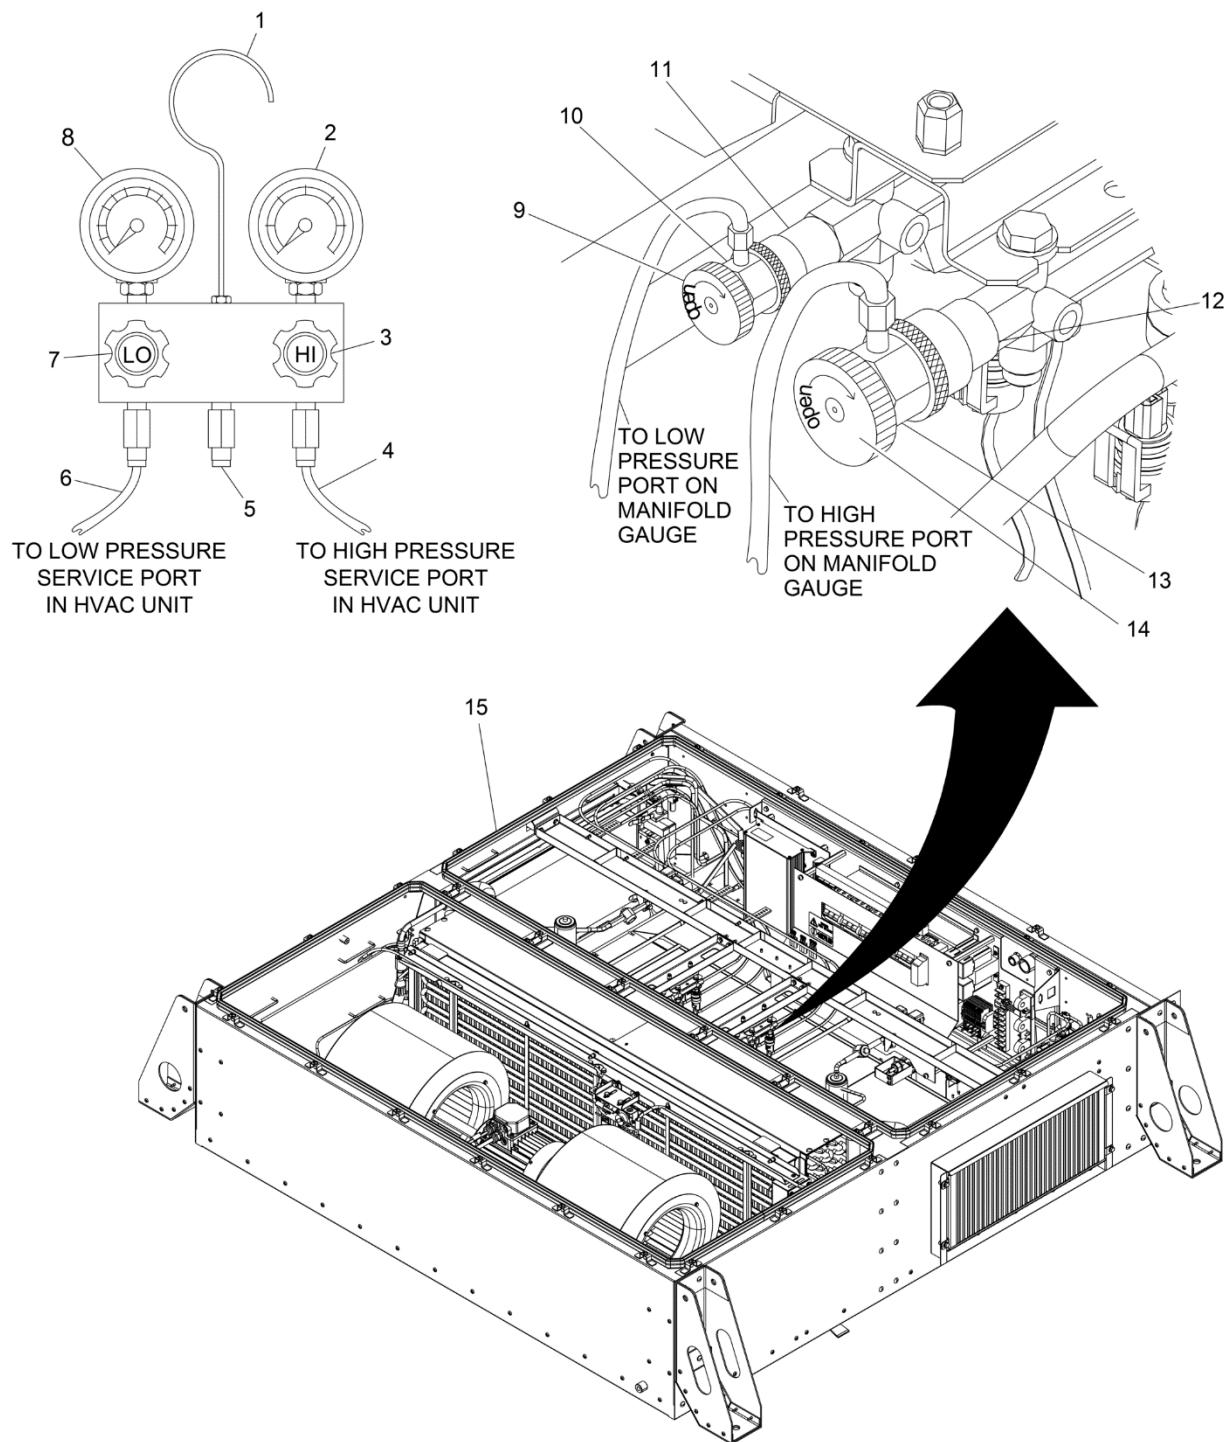

Figure 5-12: Pressure Transducer Functional Test
2. Verify hoses (4, 6, Figure 5-12) on manifold gauge set (1) are in good condition.
3. Ensure center hose port (5) on manifold gauge set is capped.
4. Ensure both high-pressure and low-pressure control valves (3, 7) on manifold gauge (1) are closed.
6. Install service couplers on service ports in return air plenum (15) as follows (refer to Figure 5-12):
- a. Ensure red service coupler (13) is closed by turning knob (14) fully counter-clockwise.
- b. At high-pressure service port (12), remove black cap from port and install red service coupler (13).
- d. Ensure blue service coupler (10) is closed by turning knob (9) fully counter-clockwise.
- e. At low-pressure service port (11), remove black cap from port and install blue service coupler (10).
7. Connect manifold gauge high-pressure hose (4) to red service coupler (13) on high-pressure service port (12).
8. Connect manifold gauge low-pressure hose (6) to blue service coupler (10) on low-pressure service port (11).